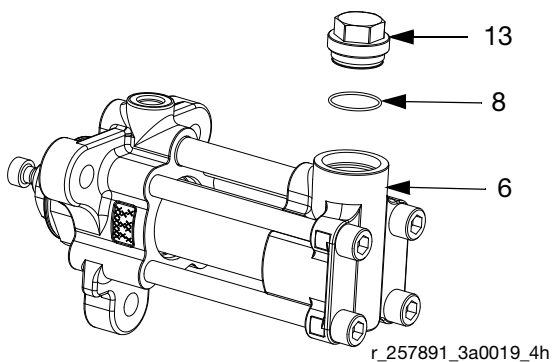

FIG. 2
**NOTE:** S1 and S3 models can be identified by the hex on the inlet cap (13).
2. Remove inlet hose and drain inlet housing (7). See FIG. 2.